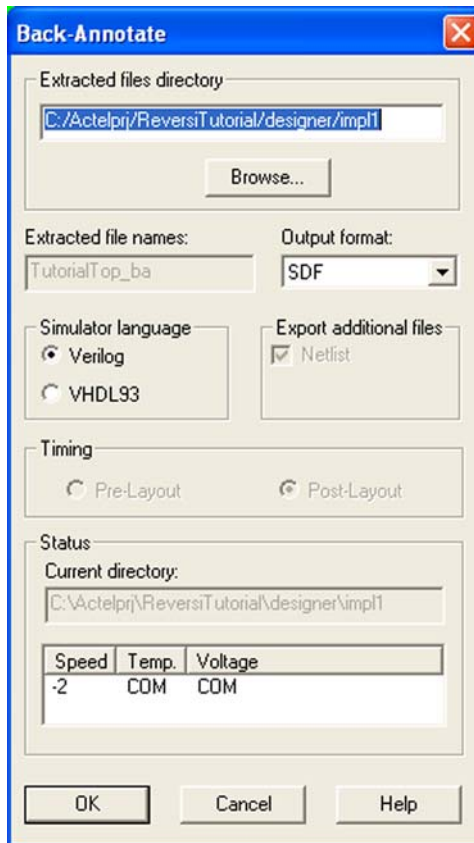

Figure 5-46. Back-Annotate Dialog Box
13. From Designer, click **Back-Annotate** in the Design Flow window. This opens the Back-Annotate dialog box, shown in Figure 5-46.